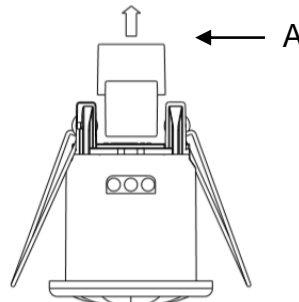

FIG 2
- 4) Remove the transparent terminal block cover 'A' at the top of the sensor. FIG 2.